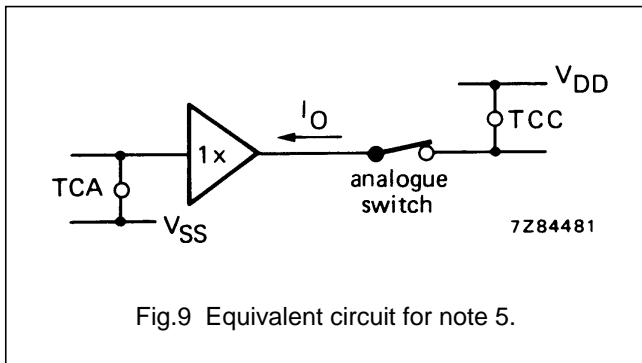

Fig.9 Equivalent circuit for note 5.
5. The analogue switch is in the ON position (see Fig.9).